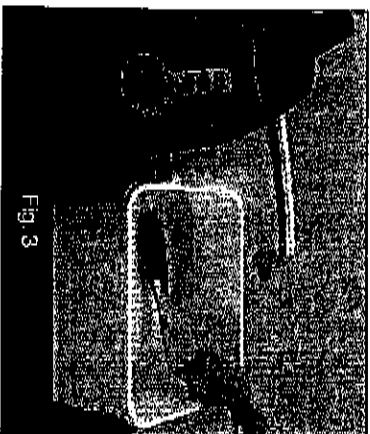

Fig. 3
2. Place the pump in the container with the water/solution. The label "This Side Up" on pump should be facing up. (Fig. 3)